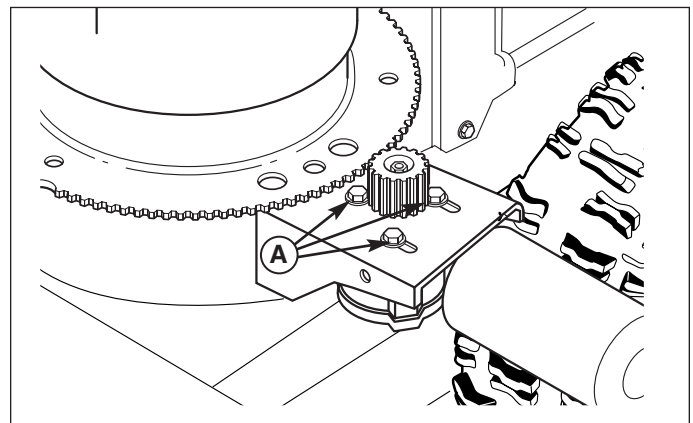

Figure 19. Chute Rotator Motor Adjustment
3. Loosen the capscrews (A, Figure 19) securing the rotator motor and adjust so that the motor gear and chute ring gear mesh. Tighten the capscrews.